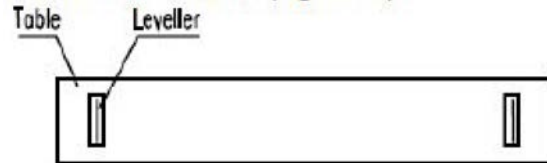

Figure 1.4
1. Check the horizontal level. (Figure 1.4)